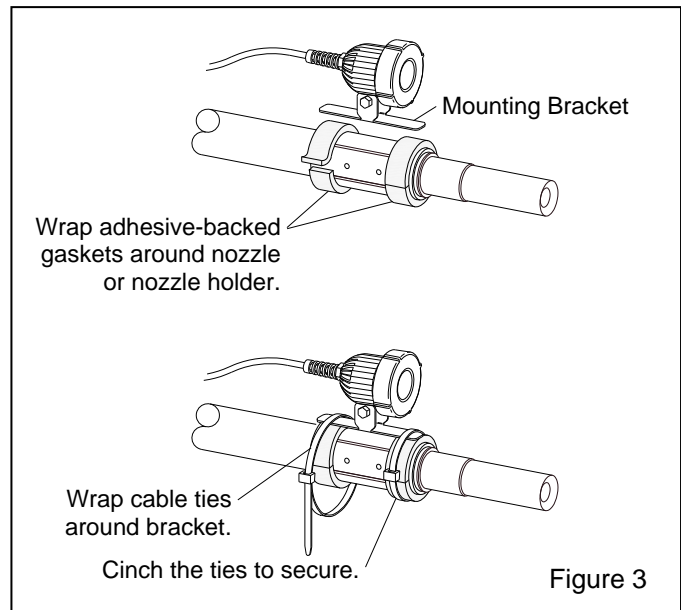

Figure 3
Refer to Figure 3**
2.2.1 Use cable ties provided or user-supplied worm clamps or tape to attach the light to the blast hose, nozzle holder or nozzle, as shown in Figure 3. When attaching the light to a slick surface, such as a nozzle or nozzle holder, use adhesive-backed gasket to prevent
2.2.2 Wrap the cable ties around each end of the mounting bracket, as shown in Figure 3, and loosely but secure enough to barely hold the light in position.